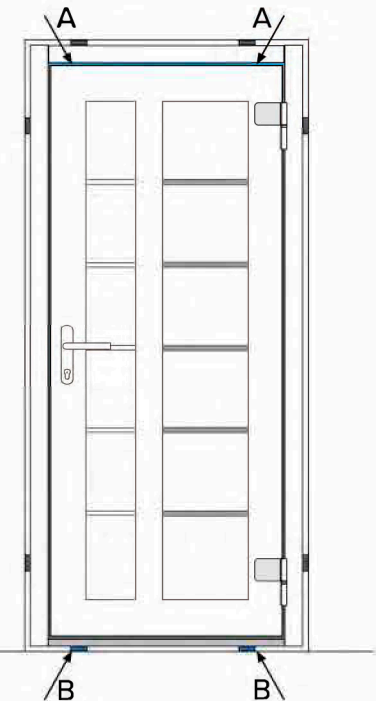

Figure 16
3.13. Align the locking part of the frame along the contact. Check the uniformity of the clearance between the top of the leaf and the top profile of the frame (A). In case of an uneven clearance, adjust it by placing wooden linings under the threshold of the frame from the side of the smaller clearance (B) (figure 16).